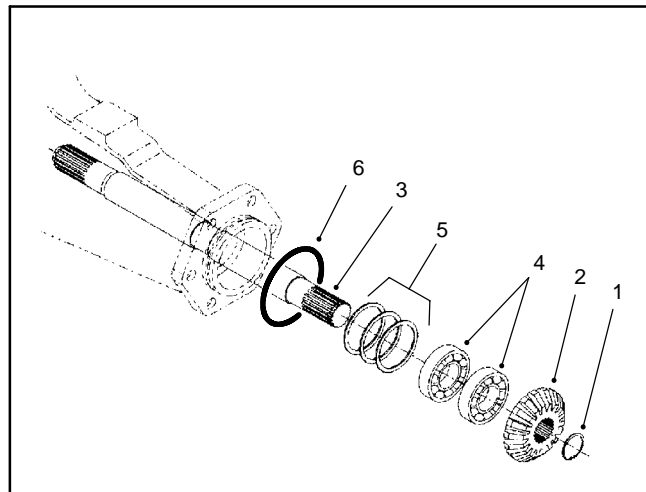

Figure 28
3. Remove the retaining ring and bevel gear (Fig 28).